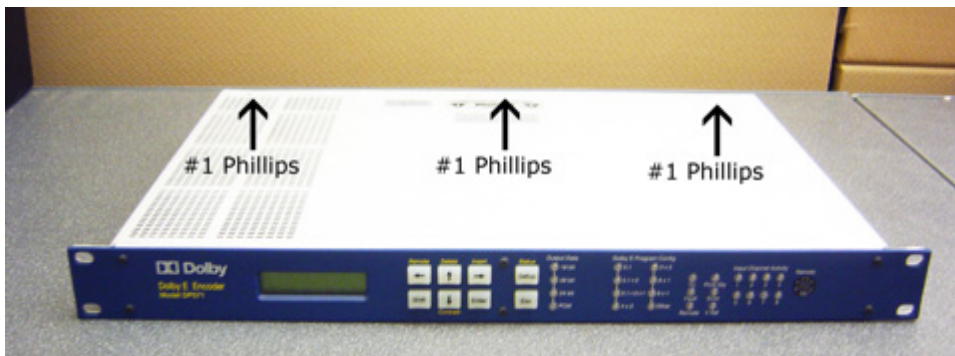

Figure 5 Top Screw Locations
4. Remove three Phillips head screws on the top back, as shown in Figure 5.